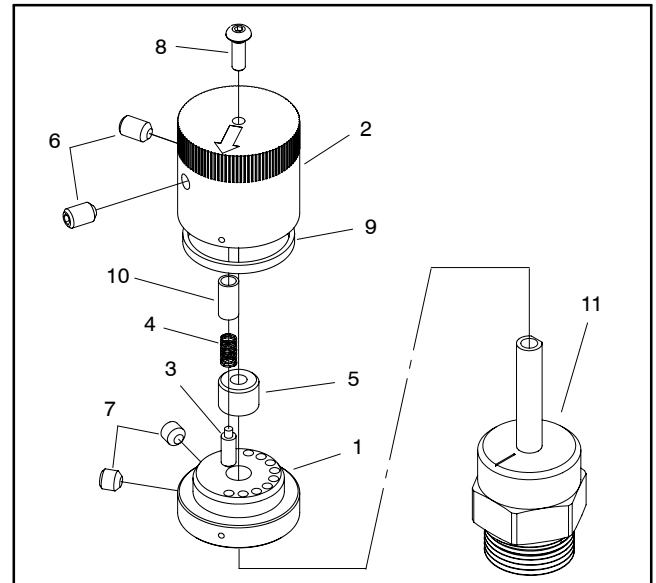

Figure 46.2
3. If flow control cartridge valve is being serviced, remove rotary handle from valve stem (Fig. 46.2):
A. Loosen two (2) set screws that secure handle cap.
D. Loosen two (2) set screws that secure handle base to flow control valve and remove base.
12. If flow control cartridge valve was removed, install rotary handle to valve stem (Fig. 46.2):
A. Place handle base on flow control valve and position alignment mark on base with number 1 on manifold. Secure base with two (2) set screws. Apply a light coating of grease to chamfer on top of base to ease seal installation.
H. Make sure that alignment marks on cap and base are in line and that arrow on cap is pointing to number 1 on manifold. Tighten two (2) set screws to secure handle cap.